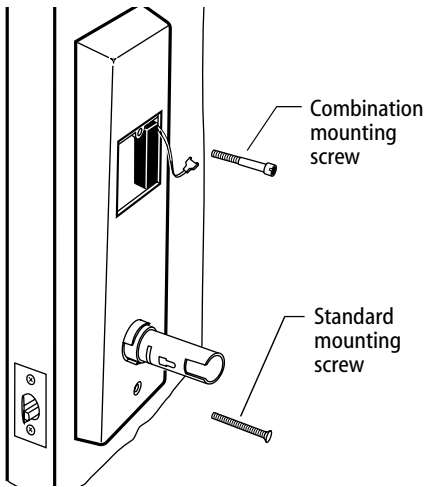

Figure 11
- 2 Tighten the trim mounting screws (see Figure 11).